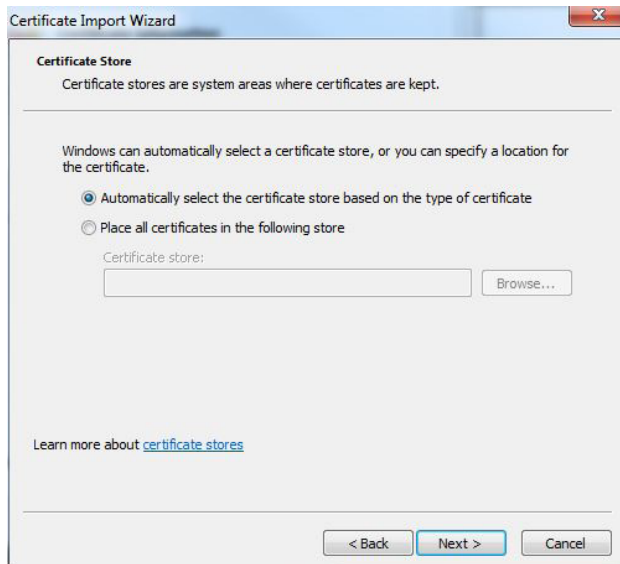

Figure 66. Certificate Import Wizard.
5. The Certificate Import Wizard window opens. Click Next. Verify that the default setting, Automatically select the certificate store based on the type of certificate, is selected and then Click Next (see Figure 66).